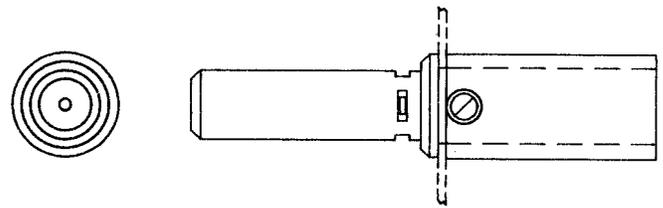

Fig. 4—802A, B, or C Connector
2.06 802A, B, and C: The 802A, B, and C connectors (Fig. 4) are arranged at one end for solderless shield connection to a 724 or similar-type cable by means of a sleeve. The other end is arranged for connection to 23-type pads and can be used with the 477A, 478A, and similar-type jacks. The shell has an angular groove to accommodate a special mounting bracket. When mounted on the bracket, the body of the connector will be electrically common with the bracket.